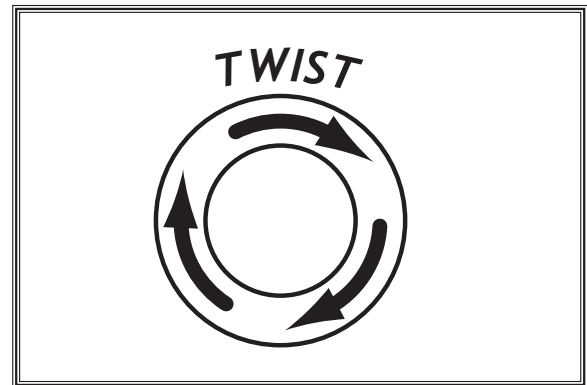

Figure 17. Resetting the switch.
4. **W1865 Only:** Twist STOP button clockwise until it springs out (see **Figure 17**). This resets the switch so the machine can start.